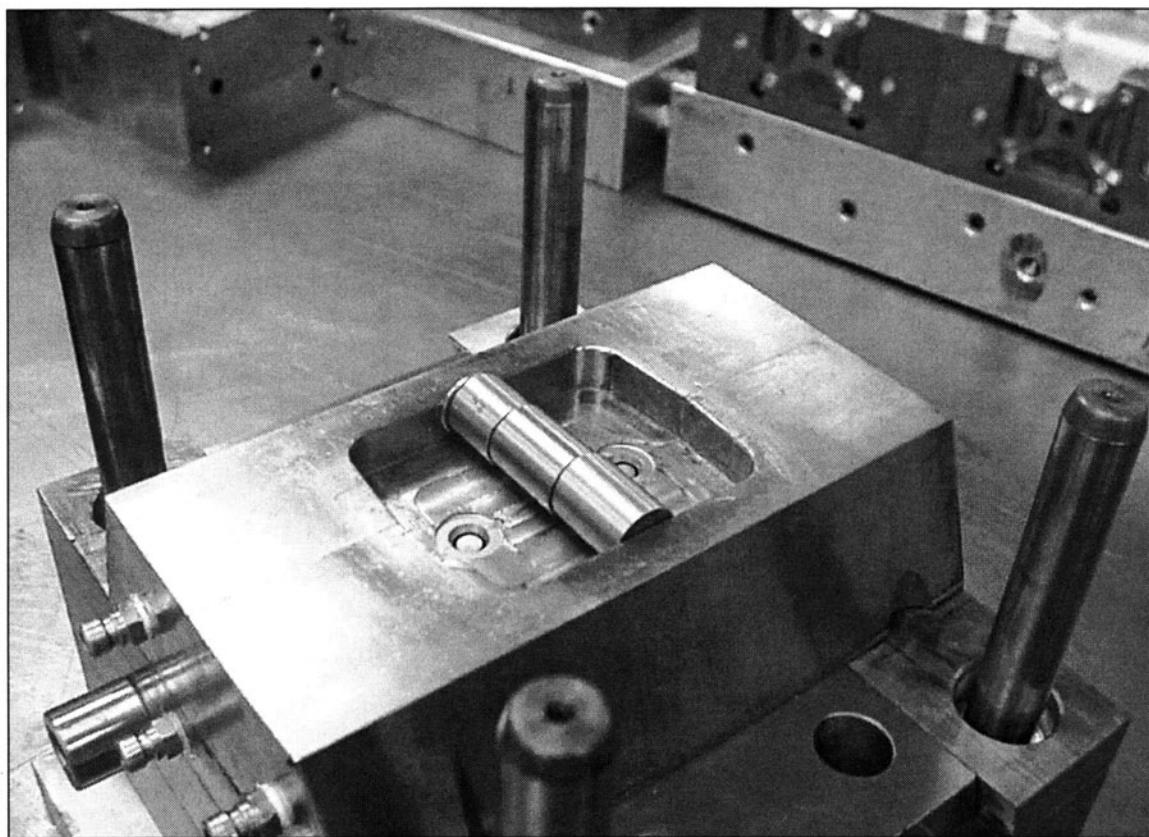

FIGURE 13-6 Gauge blocks are used to precisely measure the width of a pocket.
13. *Use gauge blocks to precisely measure mold base pockets. (See Fig. 13-6)*